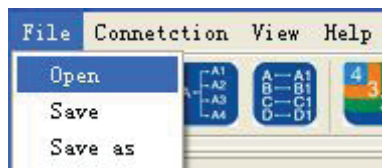

Figure 8: File Menu
**Detailed operations:** Run the control software and click on the menu button **File**. The sub menu item **Open** is to open a saved image display mode file, and **Save** is to save the current image display mode file, and **Save as** is to save the current image display mode file to another path. As shown in **Figure 8**.